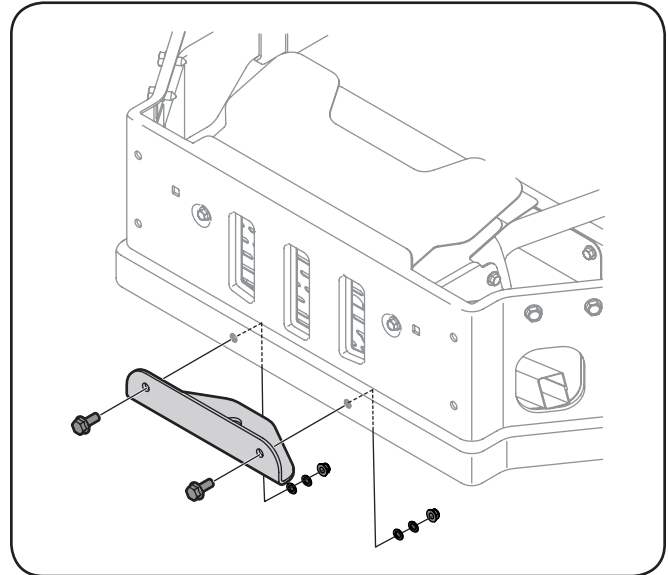

Figure 3-10
1. Remove the hex flange screws, washers and flange lock nuts that secure the hitch bracket to the bumper. See Figure 3-10.